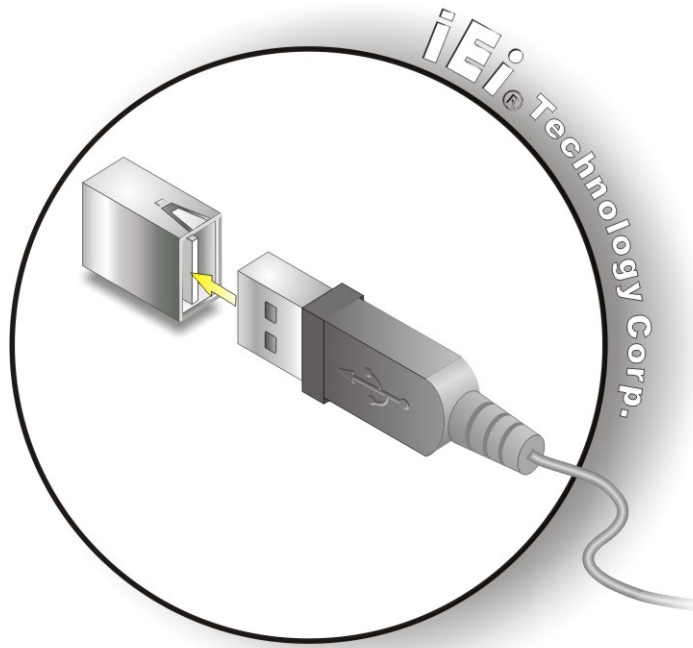

Figure 4-20: USB Connector
- Step 2:** **Insert a USB Series "A" plug.** Insert the USB Series "A" plug of a device into the USB Series "A" receptacle on the external peripheral interface. See **Figure 4-20**.